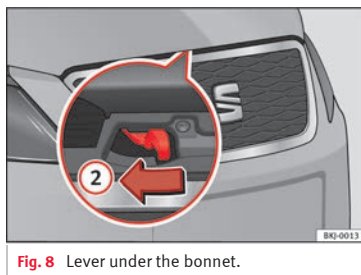

Fig. 8 Lever under the bonnet.
- To lift the bonnet, press the lever under the bonnet, in the centre, towards the left » Fig. 8 ②. The arrester hooks are released.